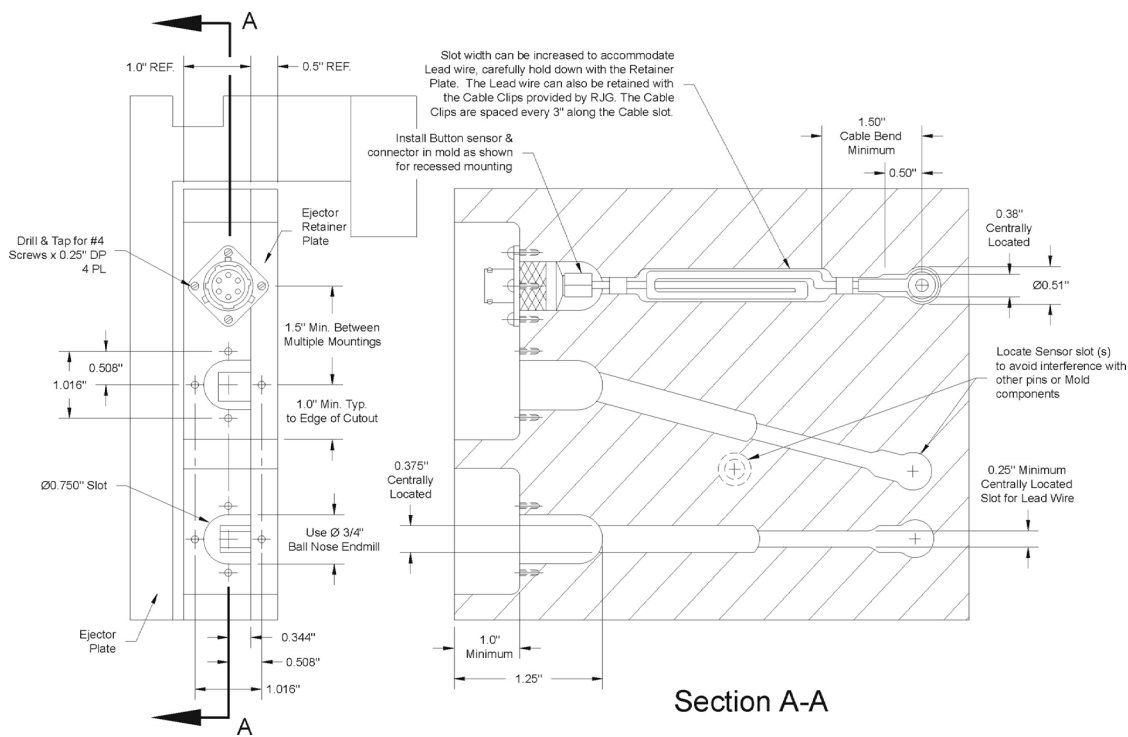

Figure 9: Recessed Mounting of the T-412, T-413 & T-414
- d. Prepare a pocket in the edge of the plate to recess the sensor connector for protection. The pocket must be large enough to allow the connection/disconnection of the cable when setting and removing the mold from the press (See Figure 9).
- e. If the sensor cable must be bent to accommodate obstacles in the mold, there must be a 1.50" minimum clearance (from the center of the button towards the connector end) before the cable can be bent. This will ensure that the wires will not be pulled out of the button (See Figure 9).
Figure 9 outlines the dimensions when inserting the T-412, T-413, or T-414 into an ejector plate.